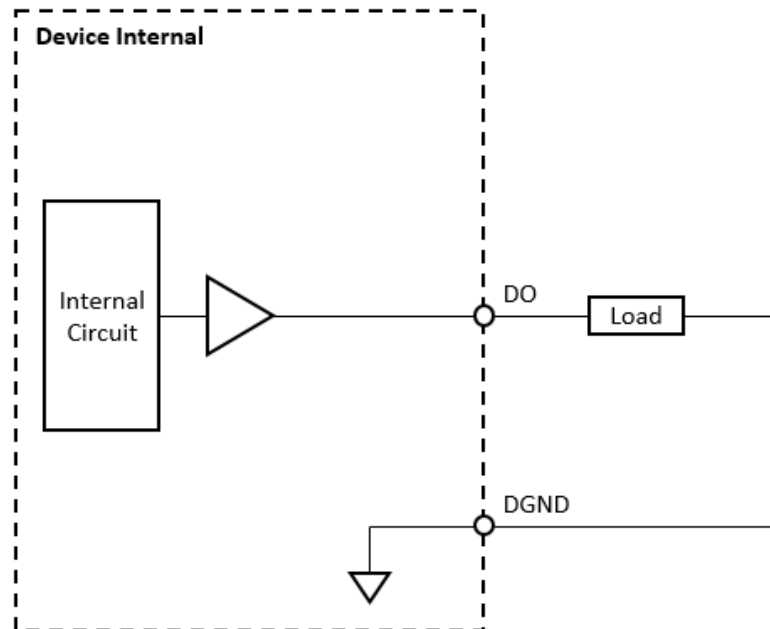

Figure 3.3 Digital output signal connection
A digital input/output (DI/O) channel can be configured by software to perform digital input measurement, which is the power-on default configuration, or digital output generation. When performing digital output generation, a voltage logic level is generated between the digital output (DO) terminal and the digital ground (DGND) terminal. This is shown in Figure 3.3.